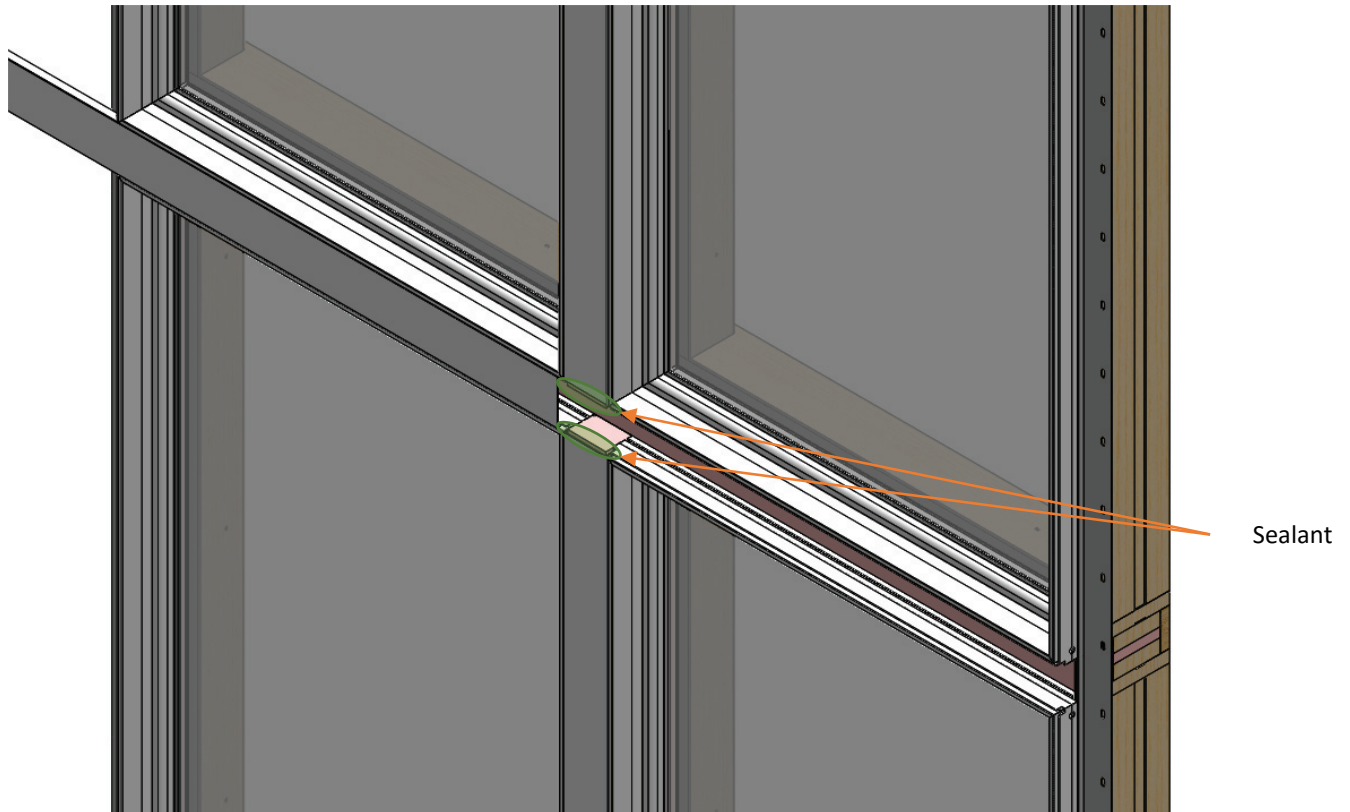

Fig. 19
- If there are horizontal and vertical mulls on the application, make sure that the joint where the two mulls meet is back bedded with a generous amount of sealant before sliding mull cap into place. (Fig. 19)